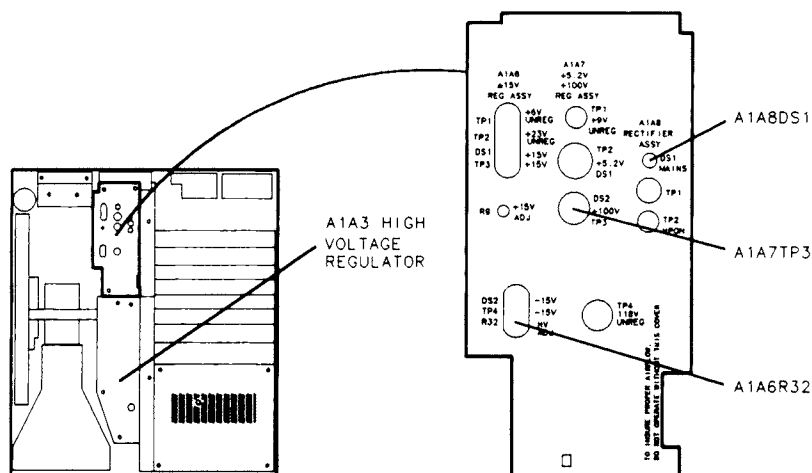

Figure 3-6. Location of High Voltage Adjustments
3. Set the DVM to the 100 V range, and connect the DVM to A1A7TP3 (+100 V). Do not use the high-voltage probe. See Figure 3-6 for the location of A1A7TP3.
The MAINS power-on indicator A1A8DS1 (red LED) should be completely off before proceeding with this procedure. See Figure 3-6. The indicator will remain lit for several seconds after the ac line cord has been removed, and will go out slowly (the light becomes dimmer until it is completely out).
15. Adjust A1A6R32 HV ADJ for a DVM indication equal to the calibration factor (calculated in step 8) times the voltage labeled on the top of A1A3 High-Voltage Regulator (noted in step 11). See Figure 3-6 for the location of the adjustment.